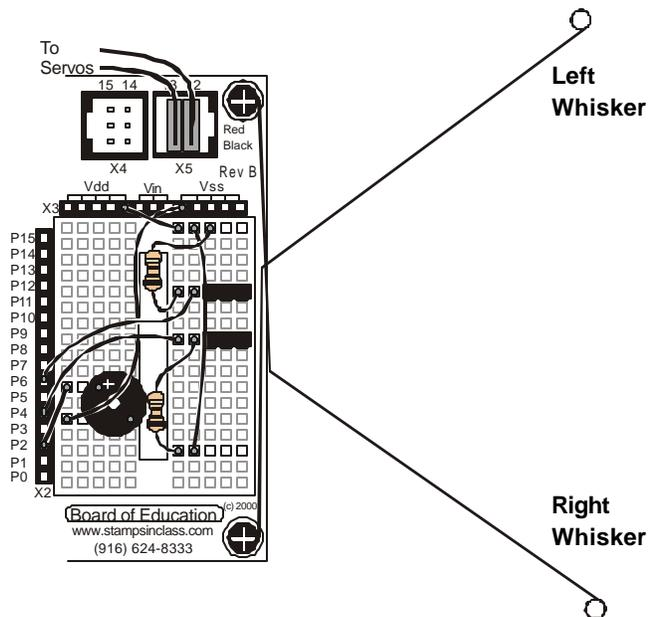

Figure 3.3: Whiskers wiring diagram.
Your #1 point Phillips screwdriver and quarter-inch combination wrench will come in handy here. Before getting started on whisker construction, take a close look at Figure 3.2. Use these pictures as a guide while constructing the mechanical part of the Whiskers kit. Figure 3.3 shows the whiskers wiring diagram. Follow it for making the necessary electrical connections.
- ❑ Check Figure 3.3 so you know which whisker is the “left whisker” and which whisker is the “right whisker”.